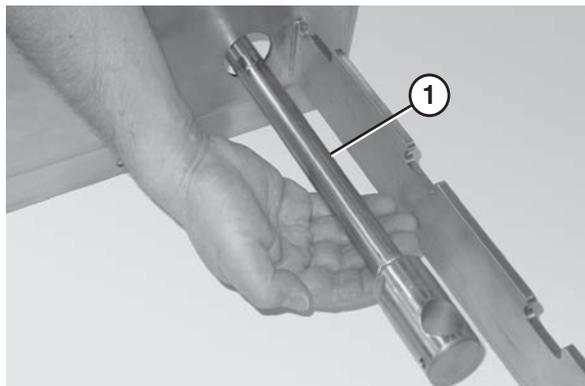

Figure 27
1. Slide the tip up shaft (**Figure 27, item 1**) through the designated slots in the frame.